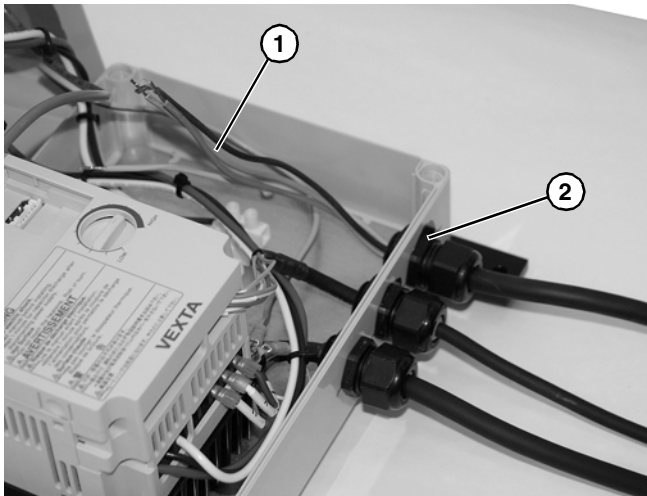

Figure 15
2. Install four wires (**Figure 15, item 1**) through cord grip opening (**Figure 15, item 2**) in controller assembly.